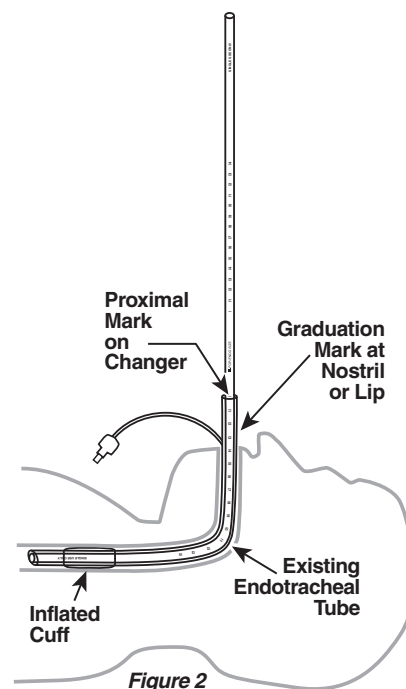

Figure 2
5. Determine the **GUIDE MARK** at the lip or nostril (Figure 1, Figure 2). During the tube exchange process, this marked position must be maintained as closely as possible. Special care must be taken to prevent further advancement of the Changer into the patient